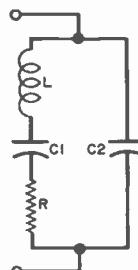

Fig. 3. This is a simplified schematic of an equivalent circuit for a typical quartz crystal mounted inside a holder.
**Crystal Circuitry.** The simplified equivalent circuit of a crystal in its holder is illustrated in Fig. 3. Capacitor  $C_2$  represents the electrostatic capacitance between the electrodes, while  $L$ ,  $C_1$ , and  $R$  represent the equivalent mass, compliance, and frictional loss of the vibrating crystal. Capacitance  $C_2$  can be measured by conventional methods; the series-resonant and anti-resonant impedances and frequencies can be measured by using a crystal impedance meter. From these two sets of measurements,  $C_1$  and  $L$  can be calculated. (The crystal can appear as either a low-impedance device at series resonance or a high-impedance device at anti-resonance.)